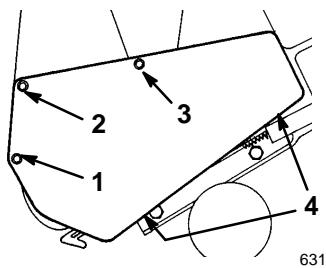

Figure 17
- Remove three self tapping screws, two capscrews, one washer, and two locknuts that secure the belt cover to the snowthrower frame (Fig. 17). Set the drive belt cover aside.